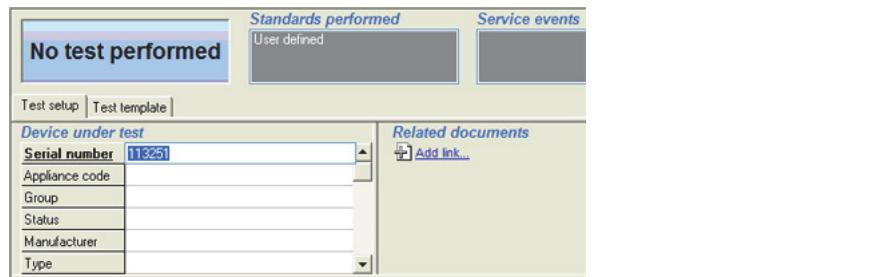

**Figure 3-69. Template Added to a Test Sequence**
3. Browse to the folder containing the template to add to the test sequence. Click on the file name and either click the **Open** button or double-click the filename. Ansur loads the selected template, adds a new page to the test sequence window and displays the template as shown in Figure 3-69.